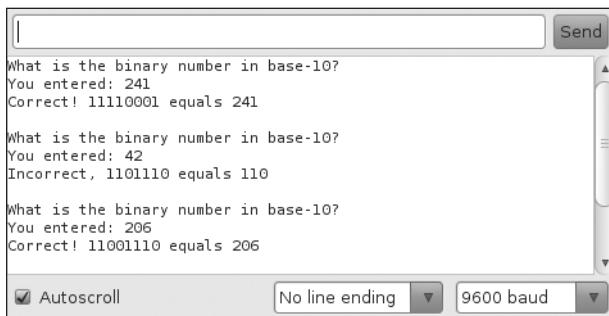

Figure 6-7: Project 17 in play
Let's review how the sketch works. At ❶, void setup() configures the digital output pins to use the shift register, starts the Serial Monitor, and seeds the random number generator. At ❷, the custom function displayNumber() accepts a byte of data and sends it to the shift register, which uses LEDs to display the byte in binary form via the attached LEDs (as in Project 16). At ❸, the custom function getAnswer() accepts a number from the user via the Serial Monitor (as in Project 14) and displays it, as shown in Figure 6-7.
Figure 6-7 shows the game in play in the Serial Monitor.